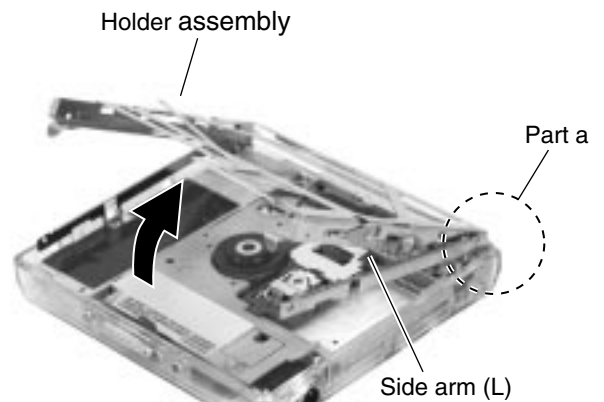

Fig.3
## ■ Removing the holder assembly (See Fig.3 and 4)
1. Turn the Holder assembly as shown in Fig.3.